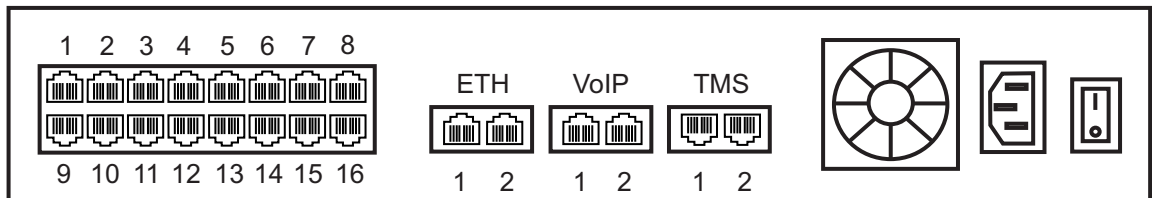

Figure 2.4 16-Port Interface to the PSTN
A TMG3200 with 16 RJ48 ports enables the connection to T1/E1/J1 lines. The termination impedance is set at 100 ohms for T1 lines and 120 ohms for E1 lines. It is possible to connect an external balun in order to convert to 75 ohms. See figure 2.4 on page 12.
1. Start with port 1 located at the top and left-most position. Connect one cable between this port and the T1/E1/J1 line (figure 2.4 on page 12).